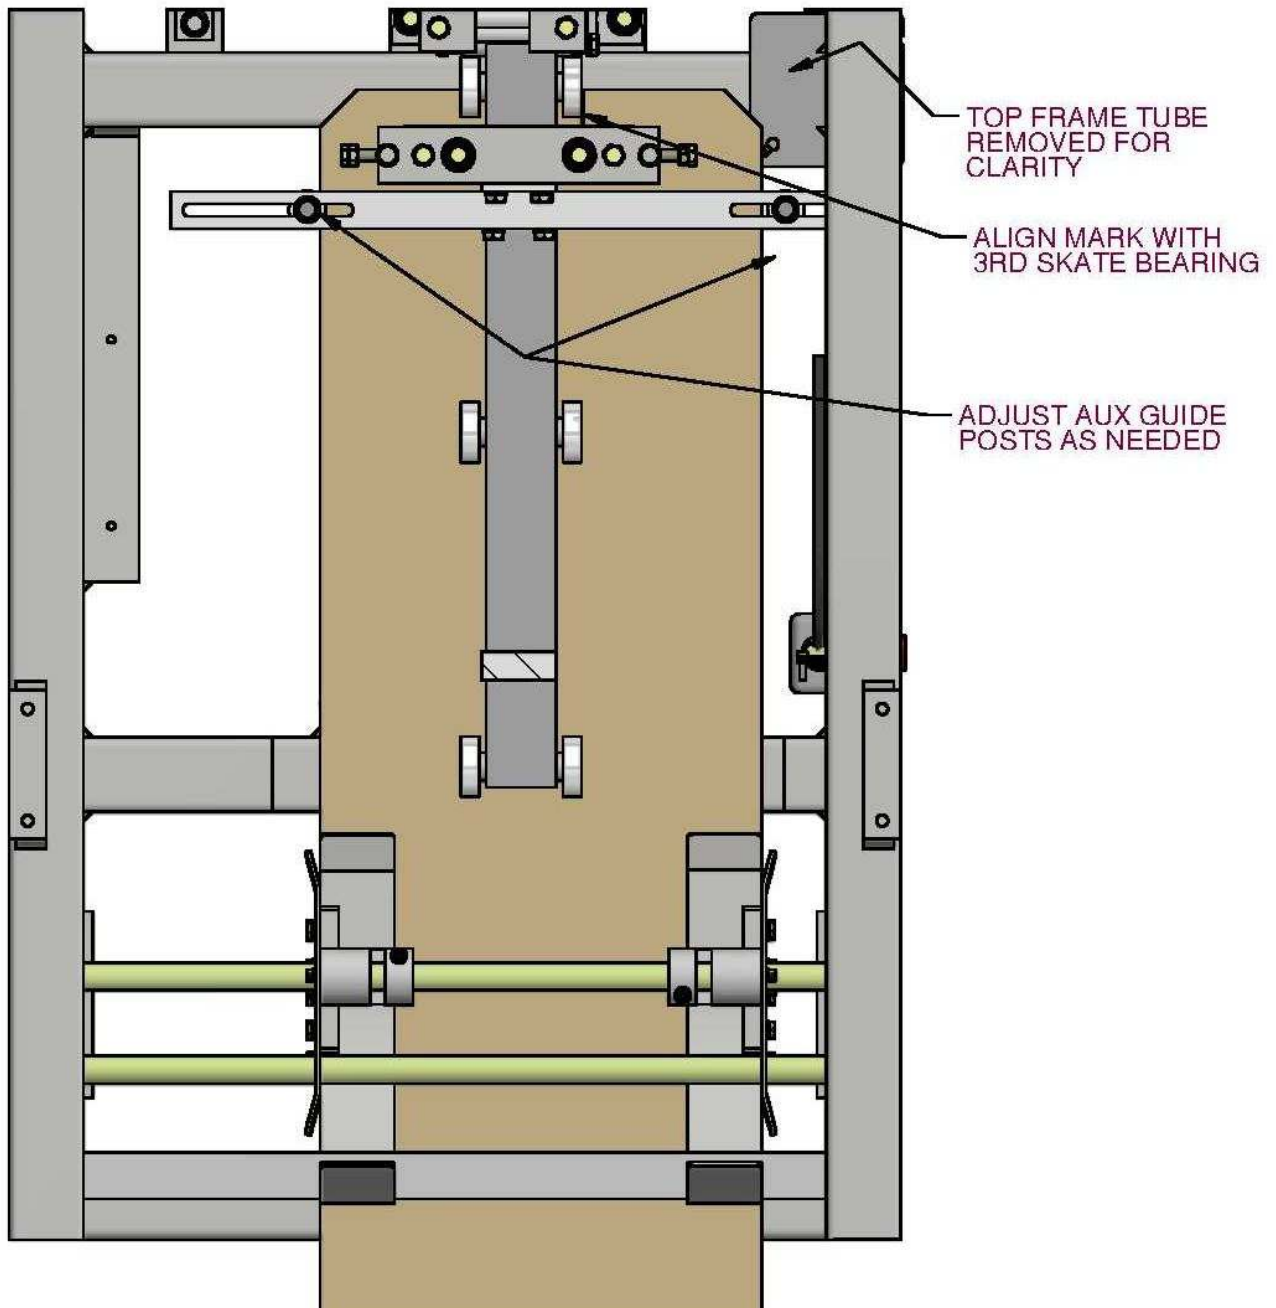

Figure 20: Feeding Material - 3rd Skate Bearing
8. Align the mark on the leading edge of the material to the third skate bearing as shown in Figure 20.